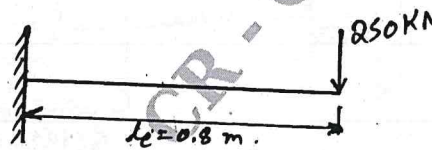

Fig Q5(b)
b. A cantilever beam subjected to point load of 250kN as shown in Fig Q5(b). Determine deflection at tip and support reactions, Take,  $E = 200\text{GPa}$ ,  $I = 4 \times 10^6\text{mm}^4$  and  $l_c = 0.8\text{m}$ .